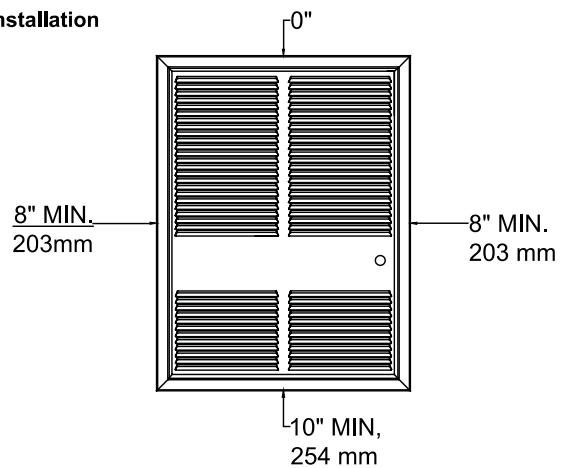

FIG. 1 FLUSH MOUNT
- Disassemble heater by removing 7 screws "C" as shown in Figure 1 and 2.
- Flush mounting, see Fig. 1. Place rough-in box "A" between studs at desired height: secure to studs through holes "M". The flanges on the rough-in box must rest on the surface of the finished wall; if the box is installed prior to the application of the finished wall, allowance must be made for the wall thickness.